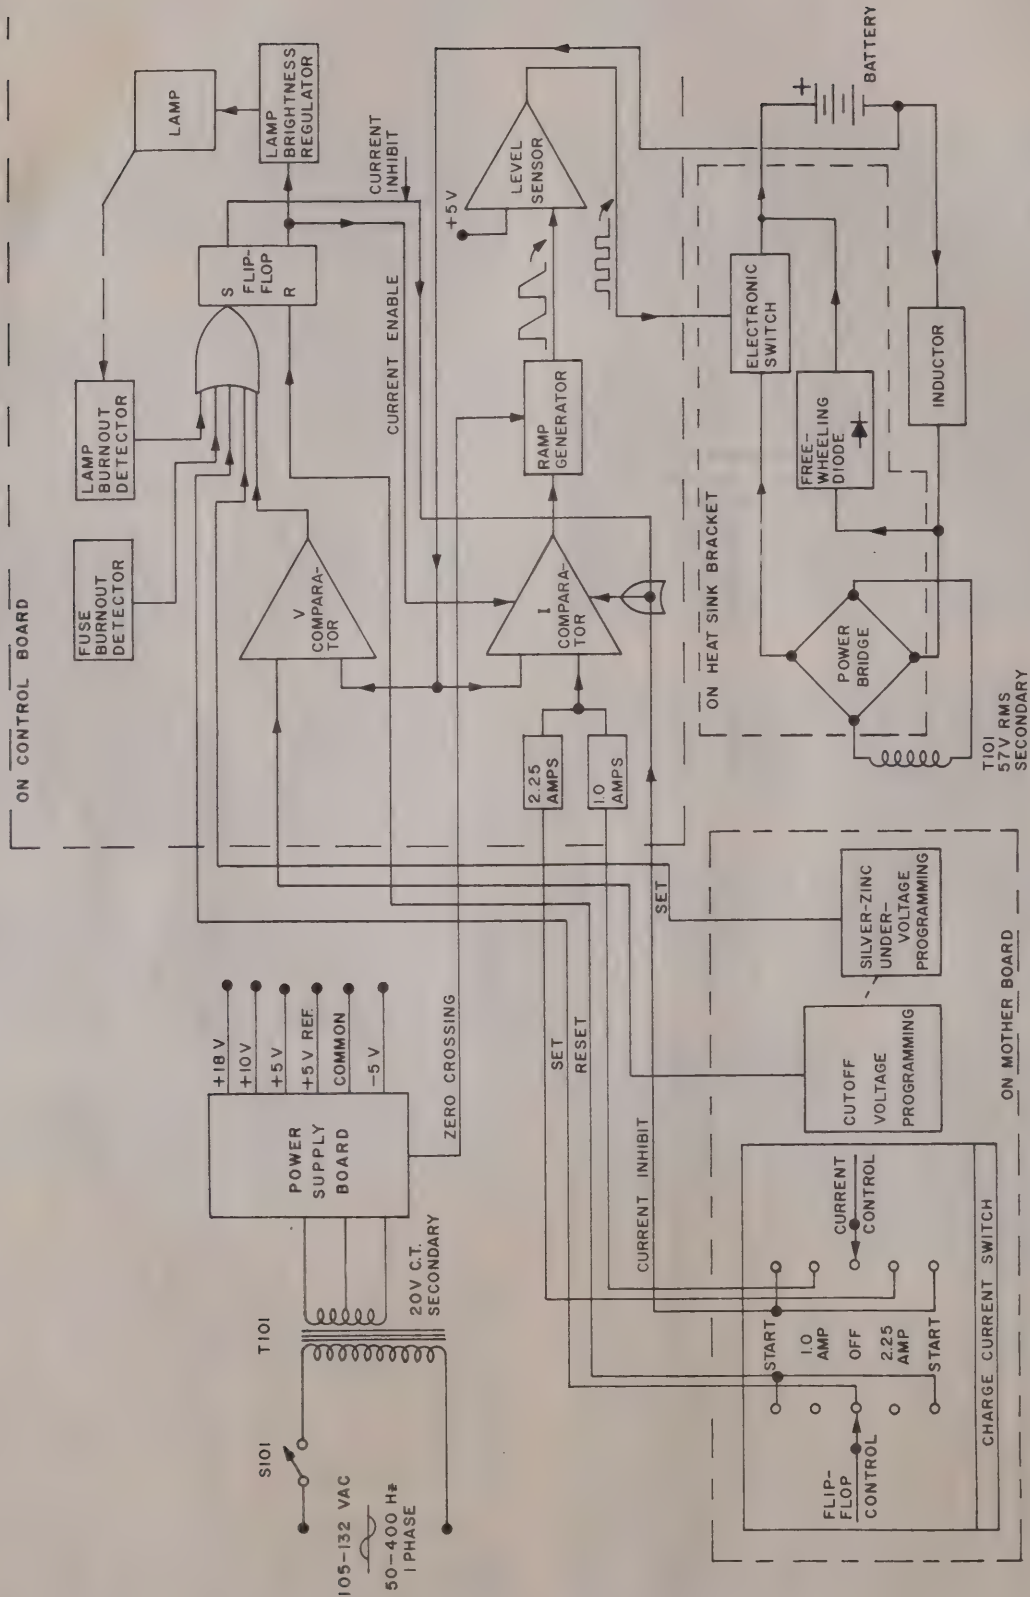

Figure 4-1. Functional Block Diagram
a. The battery charger is a three-channel, current-regulated equipment with programmable cutoff voltage. Current from each channel is independently regulated by its own phase-angle-controlled electronic switch. The battery charger automatically stops the flow of charging current when the battery terminal voltage reaches the programmed cutoff voltage. A block diagram depicting the operation of a single charging channel appears in figure 4-1. Paragraphs 4-2b through f describe the operation of a typical charging channel.